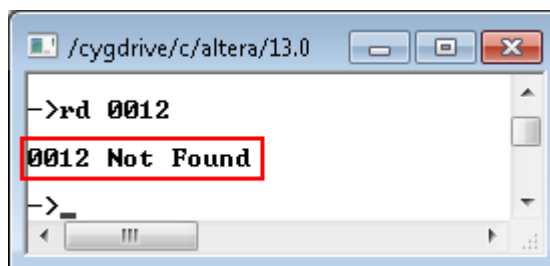

Figure 3-23 File Not Found
- (2) Error when request file name is not found within current directory, as shown in Figure 3-23.